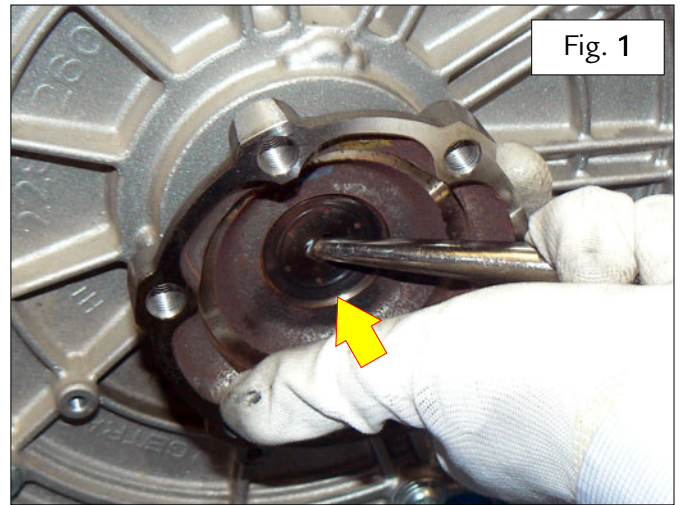

Fig. 1
➤ Assemble the gearbox overhaul support **AM 107314** (95977314) onto the swivel-head base **AV 2621** (95972621) – Fig. 1.
- With something sharp pierce the center of the rubber cap indicated on the right differential flange, then prise it out of its seat – Fig. 1.